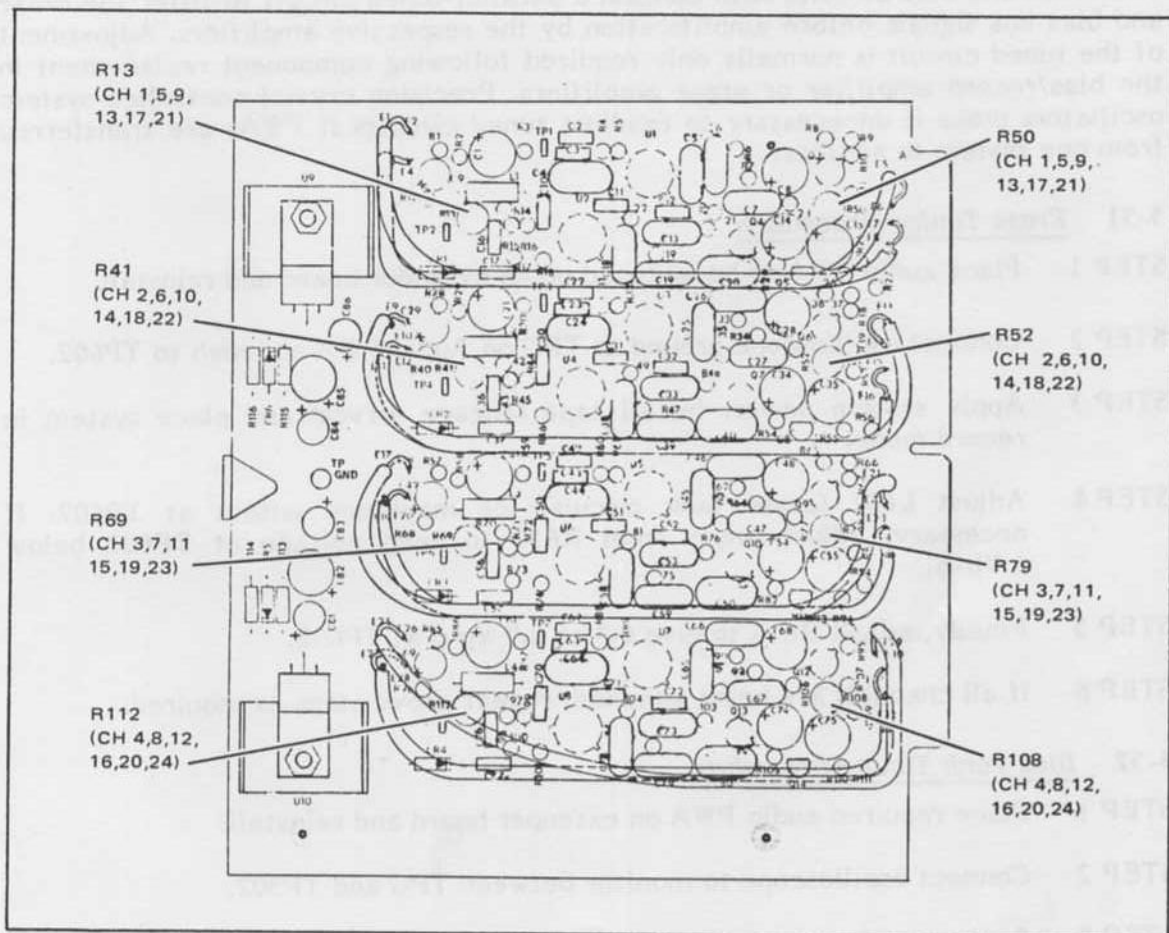

Figure 5-24. Audio Preamplifier, Equalization Preamplifier Control
- STEP 8 Reset oscillator frequency to 25 kHz. Adjust repro damping R50/R51/R79/R108 (Figure 5-24) on channel 1 repro preamp to achieve the same reading as in preceding step.
- STEP 12 Change frequency to 1 kHz. Adjust channel 1 sync preamp low frequency boost control R13/R41/R69/R112 (Figure 5-24) on Preamp PWA for same reading as in step 11.